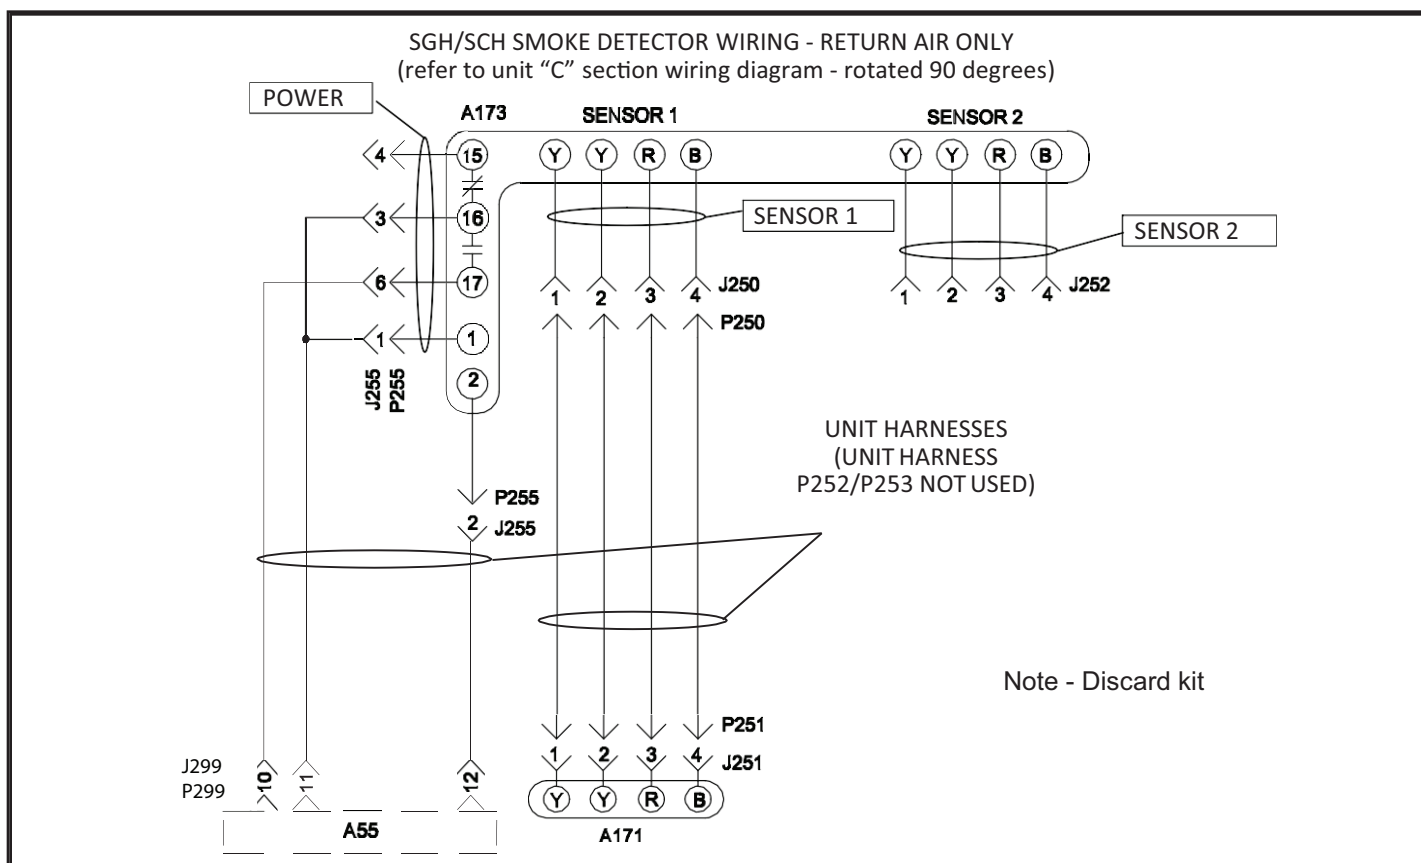
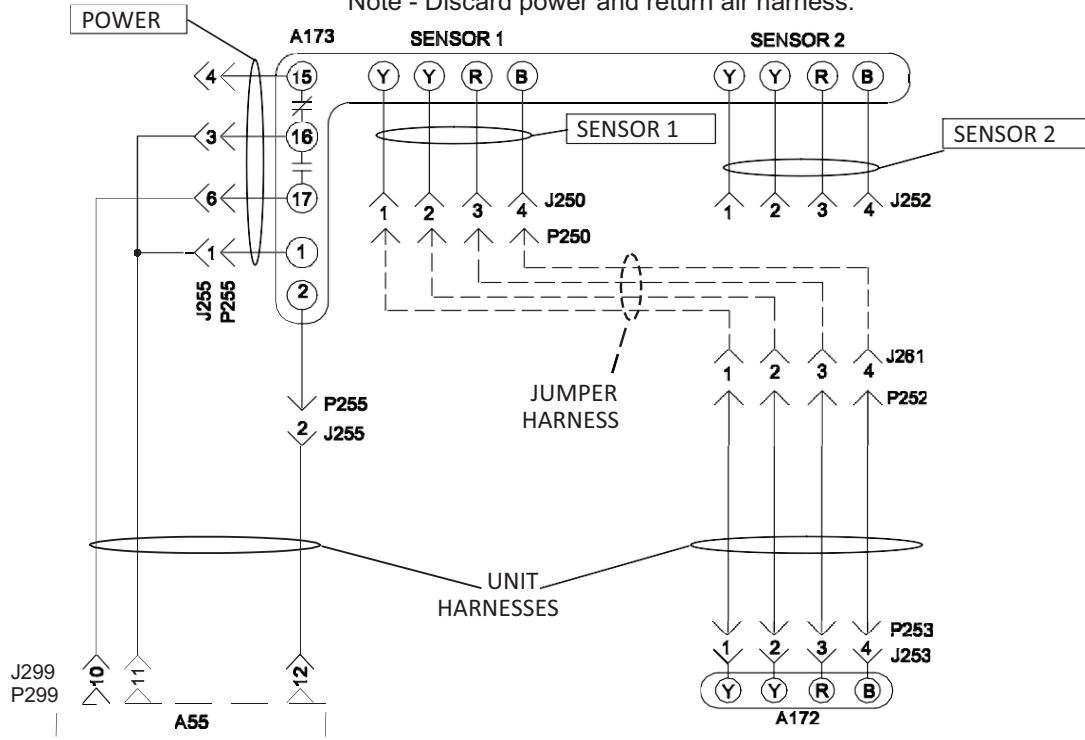
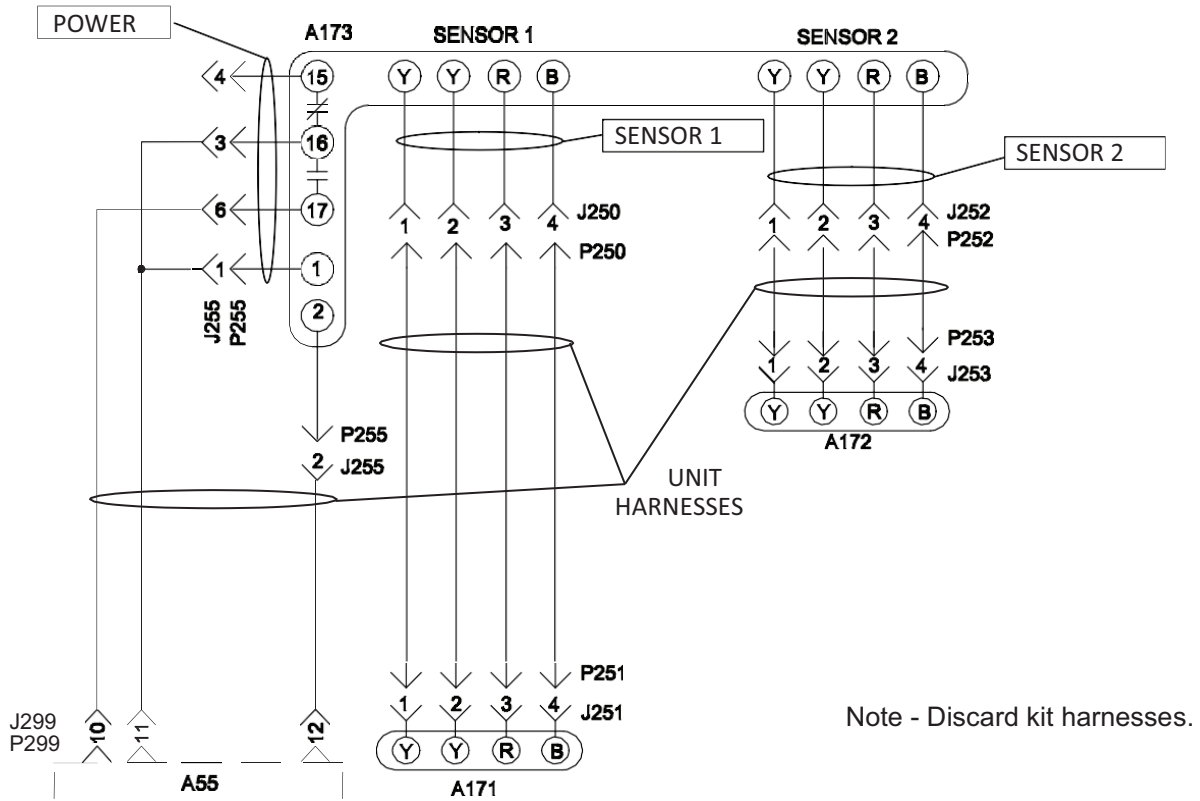

FIGURE 7
FIGURE 8
FIGURE 9
- 1 - Make jack/plug connections as shown in FIGURE 7 when installing return air smoke detector only, FIGURE 8 when installing supply air smoke detector only, and FIGURE 9 when installing both supply and return air smoke detectors.